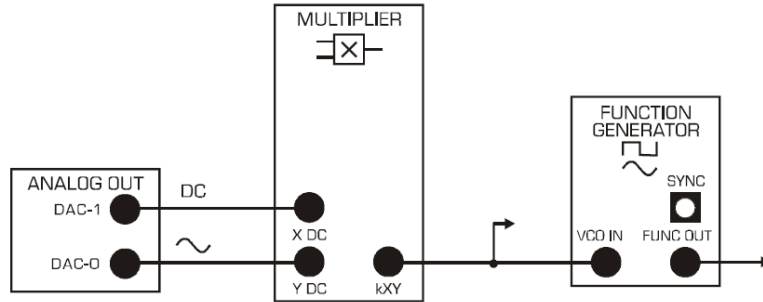

Figure 2-5 Diagram of the model for investigation of VCO as a system with rapidly “varying” input level
5. Replace the DC signal with the signal output from the MULTIPLIER, where the input to the MULTIPLIER is both the DC voltage at DAC-1 and the fixed sinewave at DAC-0 (See Figure 2-5).